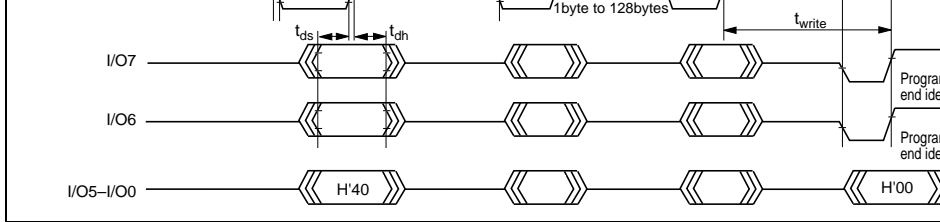

Figure 15.20 Auto-Program Mode Timing Waveforms
- Memory address transfer is performed in the second cycle (figure 15.20). Do not perform another data transfer after the second cycle.